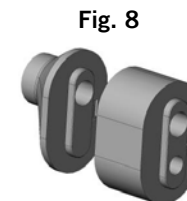
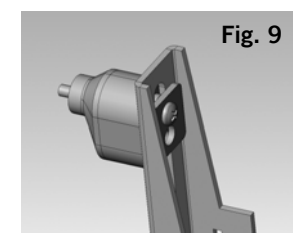

Fig. 8
Fig. 9
The 3/4" spacer (N) may be used by itself (Fig. 7), or in combination with the 5/8" spacer (M), for even greater depth. Stack the two spacers (Fig. 8), and then install them between the display and the mounting rail. (Fig. 9)